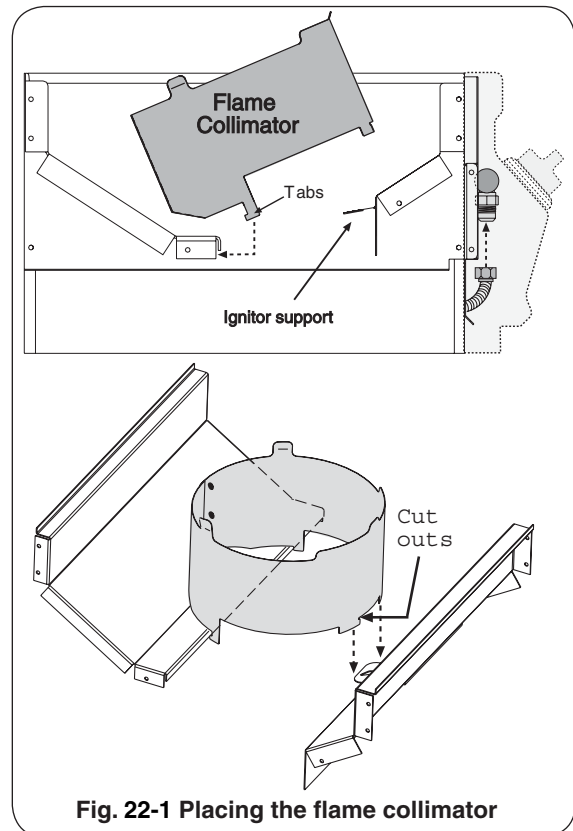

Fig. 22-1 Placing the flame collimator
1. Place the flame collimator over the burner with the tabs and cutouts resting on the inner shell, as shown in Fig. 22-1. Flex the front of the collimator towards the burner until the cutouts fit down around the ignitor support. This will lock your collimator into place. The flame collimator acts as a barrier for windy conditions and creates higher BTU concentration to the support grid.
1. Remove the cover, cooking grid, and flame collimator. Compress the collimator front to back to release the front lock then rotate up as shown in Fig. 22-1.